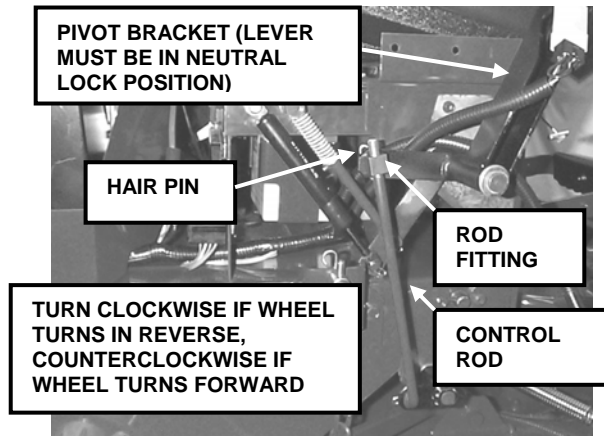

FIGURE 4.15
3. Place the positive (+) terminal insulator over positive terminal and cable. See Figure 4.15.
1. Remove the hair pin and washer securing the rod fitting to the Motion Control Lever pivot bracket. See Figure 4.15. Pull fitting end out from bracket.